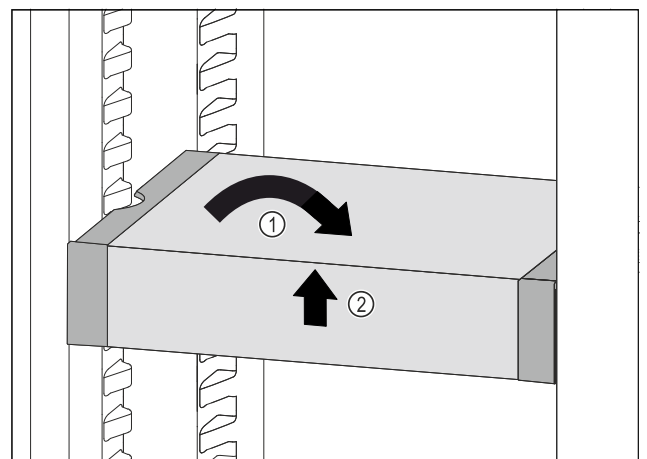

Fig. 60
- ▶ Set VarioSafe straight. Fig. 60 (1)
- ▶ Lift VarioSafe at the front. *Fig. 60 (2)*